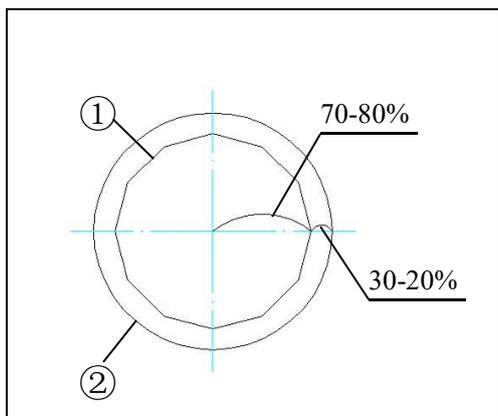

Fig 12
3.1.10 Using the aperture diaphragm (Fig 12)
- To recognize the aperture diaphragm, you could remove the eyepiece if necessary (You also could insert in the center telescope), then looked into the viewing tube, you might see a field of view like the Fig. 12 shows. The proportion could be changed by dialing the aperture adjustment lever according your need. (①is the image of the aperture diaphragm, ② is the edge of the objective)